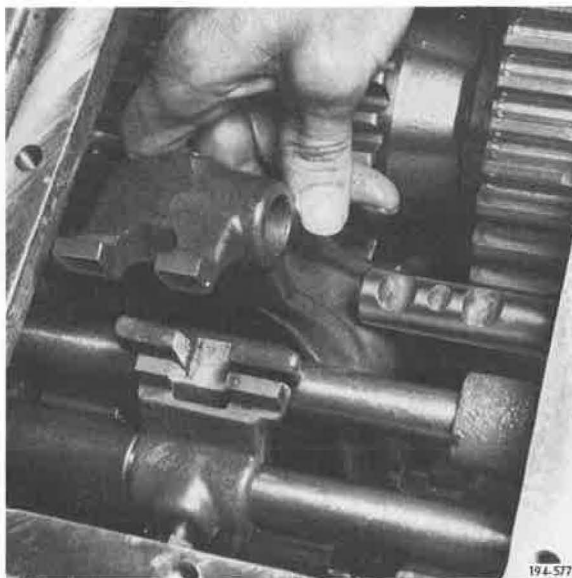

Figure 400. Sliding Shift Rail Rearward
18. Slide fourth/fifth speed shift rail through front of case, into and through hub of fourth/fifth speed shift fork, into intermediate bore of case, until rail reaches neutral position. See Figure 400.